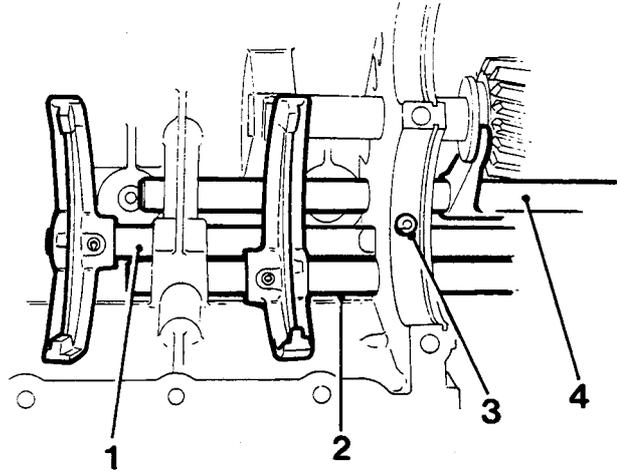

Fig.29 Selector shafts
Remove 3rd/4th detent spring and ball if not already removed (fig.29). See note 1 on page 19.
Locate 3rd/4th selector fork (see fig.29) and fit 3rd/4th selector shaft (6); place in neutral position.
Locate 1st/2nd selector fork (see fig.29) and fit 1st/2nd selector shaft (4).